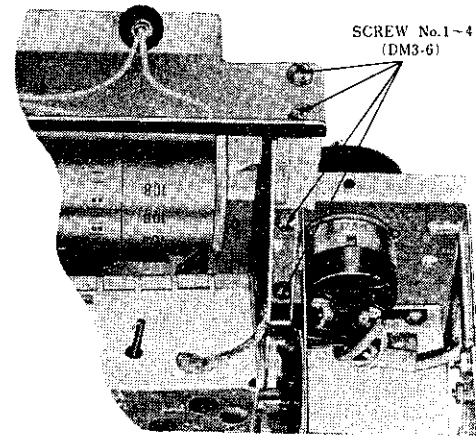

Fig. 4
To Remove Dial Scale (Refer to Fig. 4)
2. Remove two (2) dial drum mounting screws.
3. Remove four (4) dial scale bracket mounting screws, Nos. 1~4, as illustrated in Fig. 4.